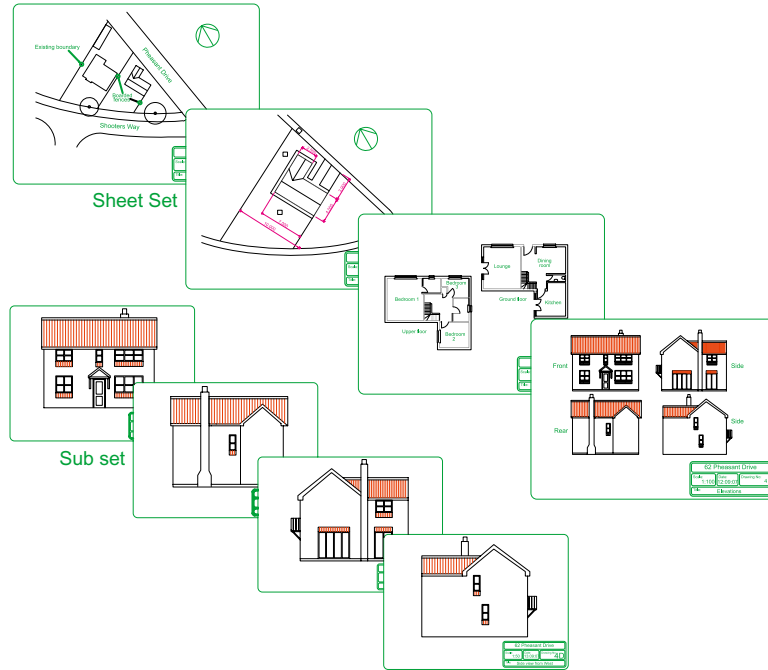

Fig. 11.2 The eight drawings in the 62 Pheasant Drive sheet set
2. Construct each of the drawings which will form the sheet set in this drawing template. The whole set of drawings is shown in Fig. 11.2. Save the drawings in a directory – in this example this has been given the name **62 Pheasant Drive**.